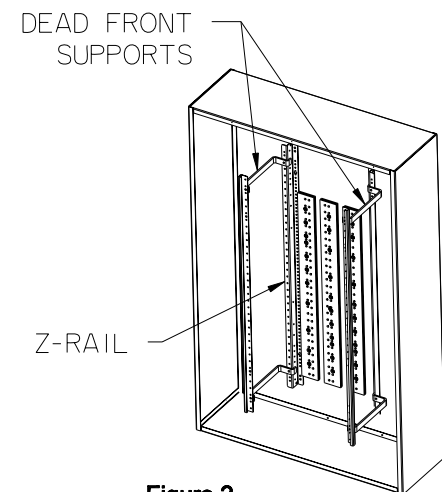
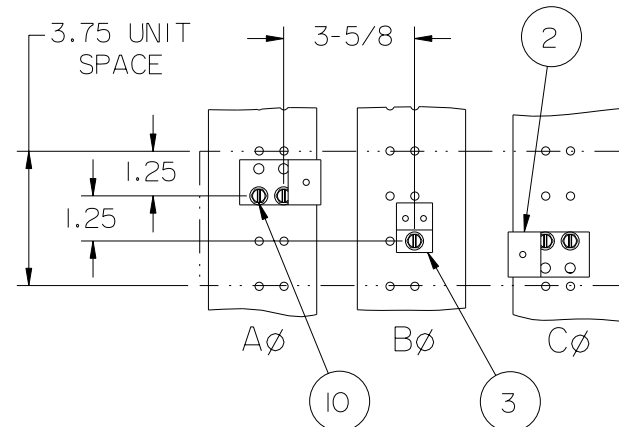

Figure 2
Figure 4
3. Reference fig. 2 - To mount a NGB Breaker, 3-3/4" of empty unit space is required. To locate the mounting position, measure from the top dead front support to the top of the empty unit space filler on the dead front. Transfer this dimension from the dead front support along the Z-rail and mark. This will be the unit space as shown on Fig. 4. After marking the Z-rail, remove the dead front.
5. Reference fig. 4 - Installing the Phase Straps. Locate two 0.228" diameter holes in the A∅ Bus 1-1/4" down from the top of the 3-3/4" empty unit space selected. Insert two 1/4-20 thread forming screws (see mounting hardware kit for the proper length) through two 0.281" diameter holes in an A/C Strap (item 2) and into the holes in the two selected holes in the A∅ Bus (orienting the A/C Strap as shown) and tighten. Repeat this step to mount the second A/C Phase Strap to the C∅ Bus using two 0.228" diameter holes in the C∅ Bus down 1-1/4" from the holes used on the A∅ Bus and tighten. Insert another 1/4-20 thread forming screw through the 0.281" diameter hole in the B∅ Strap (item 3) and into a 0.228" diameter hole in the B∅ Bus down 1-1/4" down from and 3-5/8" to the right of those used on the A∅ Bus (orienting the B∅ Strap as shown) and tighten. Torque all hardware as specified on the rear of the deadfront.